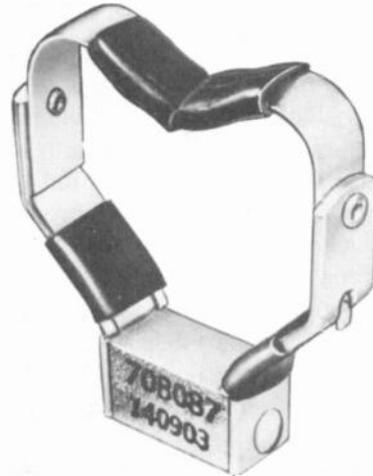

FIGURE 10-3 ION-TRAP MAGNET, USED ON OLDER MONOCHROME PICTURE TUBES.
**Beam-bender magnet.** See Fig. 10-3. This small permanent magnet is clamped around the neck on older monochrome picture tubes, near the base. The magnet is used with tubes that have a bent gun, which aims the electron beam to the side. Then the magnet is positioned to deflect the beam back to the screen. Adjust exactly for maximum brightness, or there will be no raster at all. The purpose of this arrangement is to prevent ions in the electron beam from striking the center of the screen where they can produce a brown burned area called *ion spot*. That is why the beam bender is also called an *ion-trap magnet*. However, all picture tubes now have an aluminized screen, which prevents ions from reaching the screen. As a result, the ion-trap magnet is not used anymore.